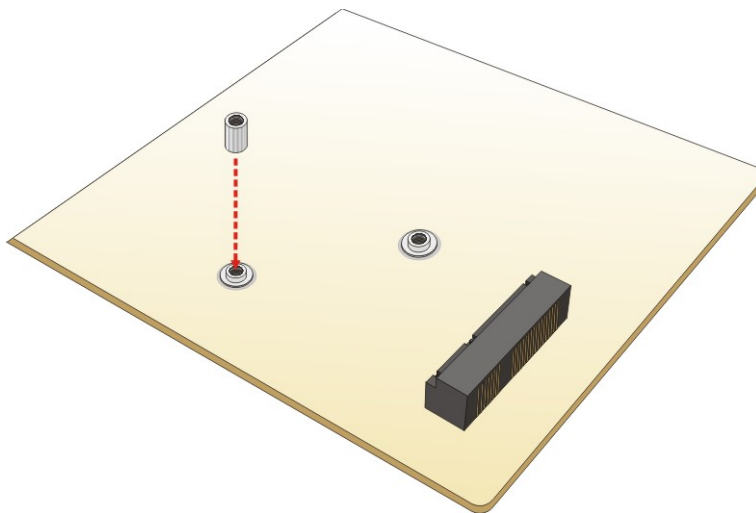

Figure 3-13: Installing the Standoff
Step 4: Install the previously removed standoff to the screw hole for the full-size PCIe Mini card (**Figure 3-13**).